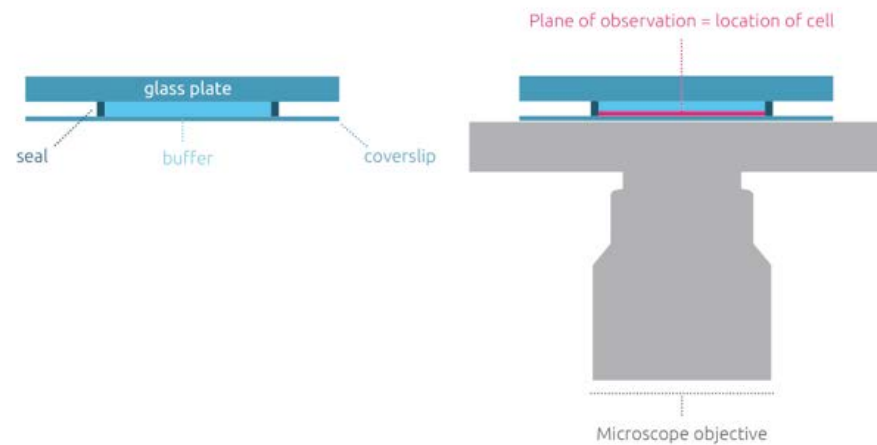

Figure 3. Schematic of observation of cells with the 3D Cell Explorer located between glass plate and coverslips
- Observe the slide upside down (i.e. with the coverslip slide facing the objective) (Figure 3).